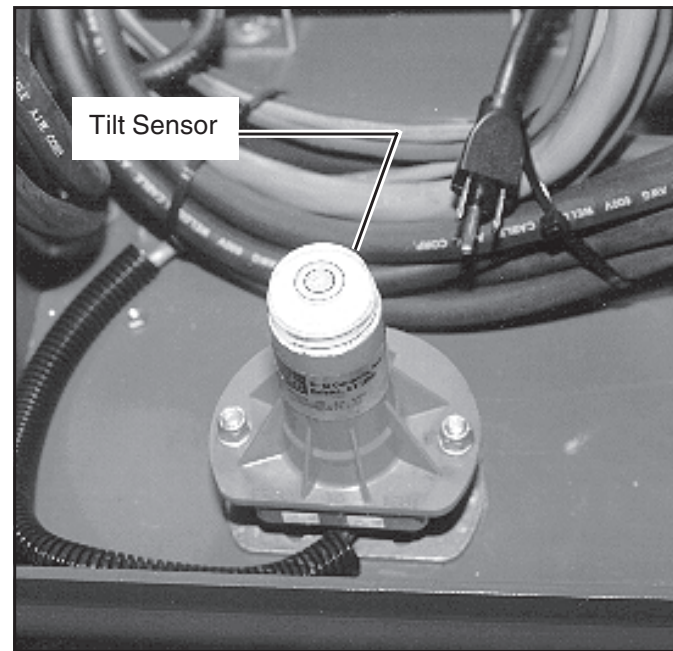

Figure 3: Tilt Sensor
8. From lower controls, push chassis raise button to elevate platform while pushing the tilt sensor (Figure 3) off of level. The platform should only partially elevate and the tilt alarm should sound. If the platform continues to elevate and/or there is no alarm **STOP** and remove the machine from service until it is repaired.